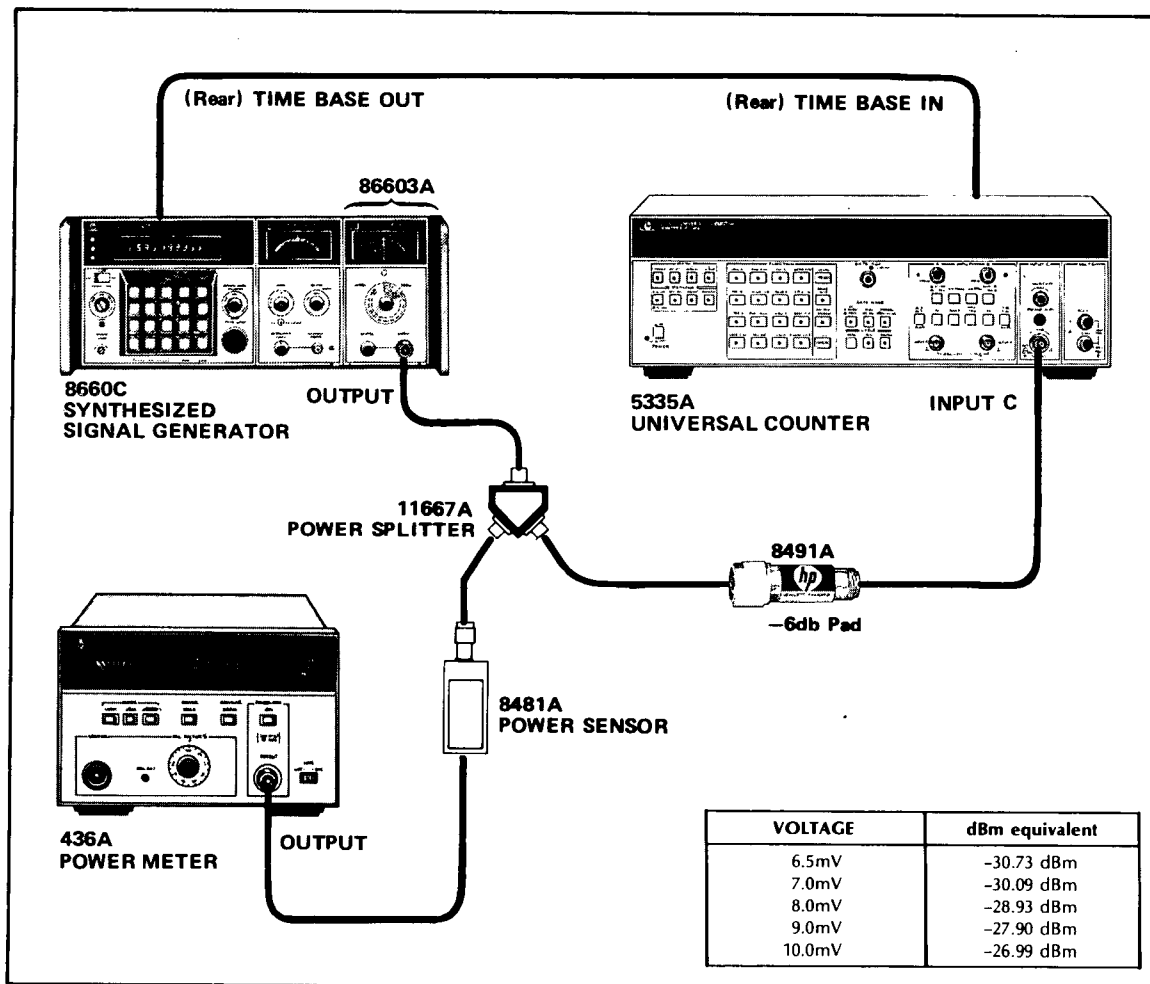

Figure 5-3. Channel C Sensitivity Setup
- f. Connect the instrument as shown in Figure 5-3.